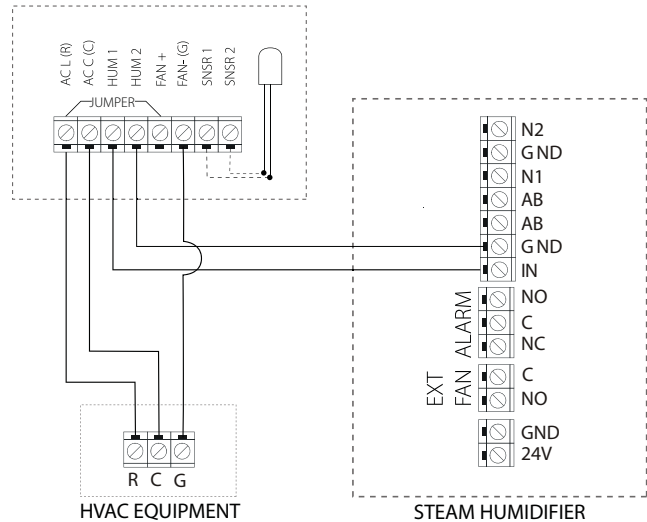

Fig. 3.t
4. Connect the GFX4 and steam humidifier to the HVAC equipment as shown in Figure 3.s. to activate the HVAC blower.